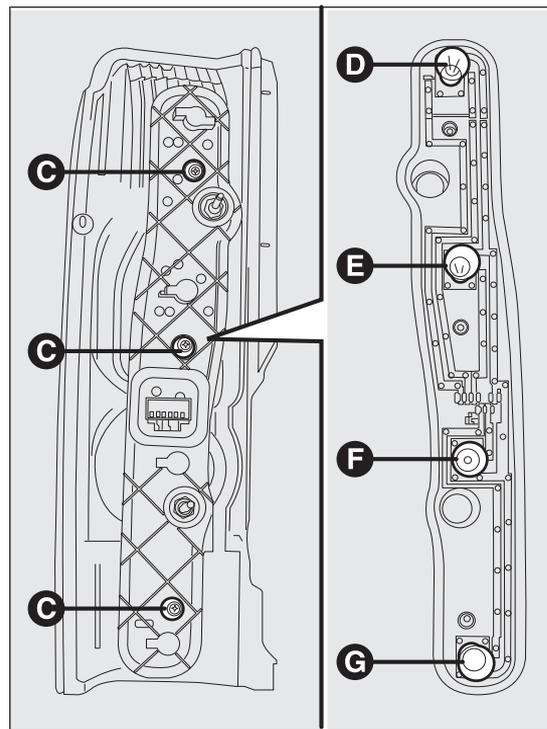

fig. 199
- unscrew the screws C fig. 199 using the screwdriver provided and remove the bulb holder;